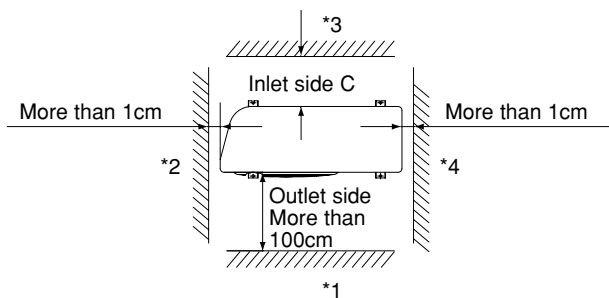
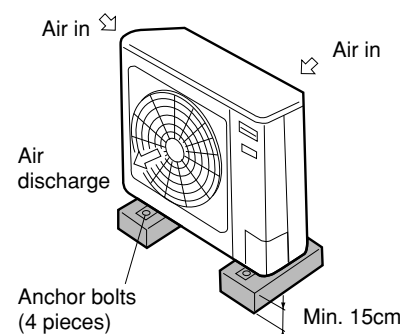

Fig. 2-5
Fig. 2-7
- allow enough room around the unit for air intake/exhaust and possible maintenance. (Fig. 2-5)
- Concerning inlet-side distance “C” (Fig. 2-5)
- If wall *1 is on the outlet side (Fig. 2-5), or if obstructions are present on all 3 sides *2, *3, and *4 (Fig. 2-5), then the minimum distance for “A” and “B” is 2 m (Fig. 2-7). Even if there is no wall on the outlet side, a minimum of 100 cm is required.
- provide a solid base (concrete block, 10 × 40 cm beams or equal), a minimum of 15 cm above ground level to reduce humidity and protect the unit against possible water damage and decreased service life. (Fig. 2-7)